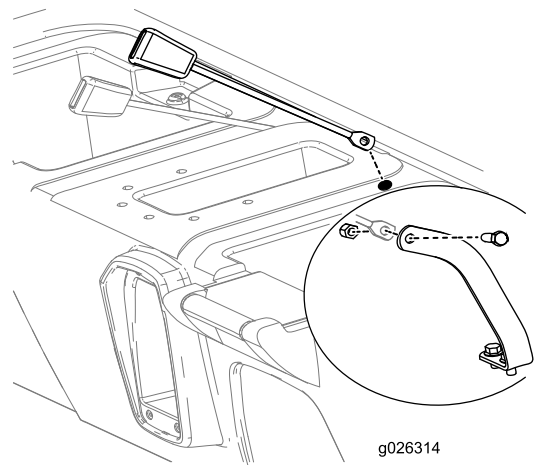

Figure 10
8. Insert the mounting side of the receiver end of each seat-belt lock assembly into one of the newly drilled holes in the seat base (Figure 10).
9. Mount the receiver end of each seat-belt assembly to each seat-belt anchor with a bolt (7/16 inch) and nut (7/16 inch) as shown in Figure 10.